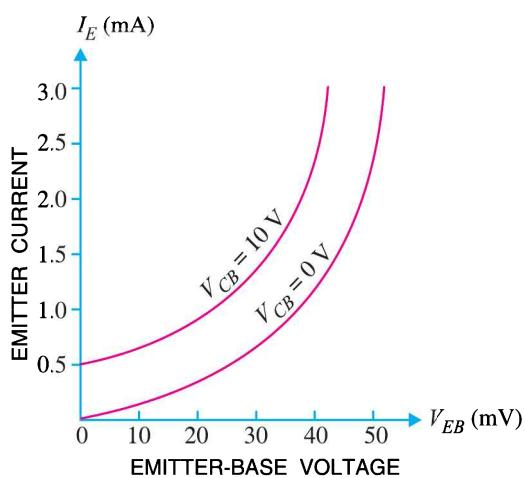

Fig. 8.14
1. Input characteristic. It is the curve between emitter current I_E and emitter-base voltage V_{EB} at constant collector-base voltage V_{CB} . The emitter current is generally taken along y -axis and emitter-base voltage along x -axis. Fig. 8.14 shows the input characteristics of a typical transistor in CB arrangement. The following points may be noted from these characteristics :